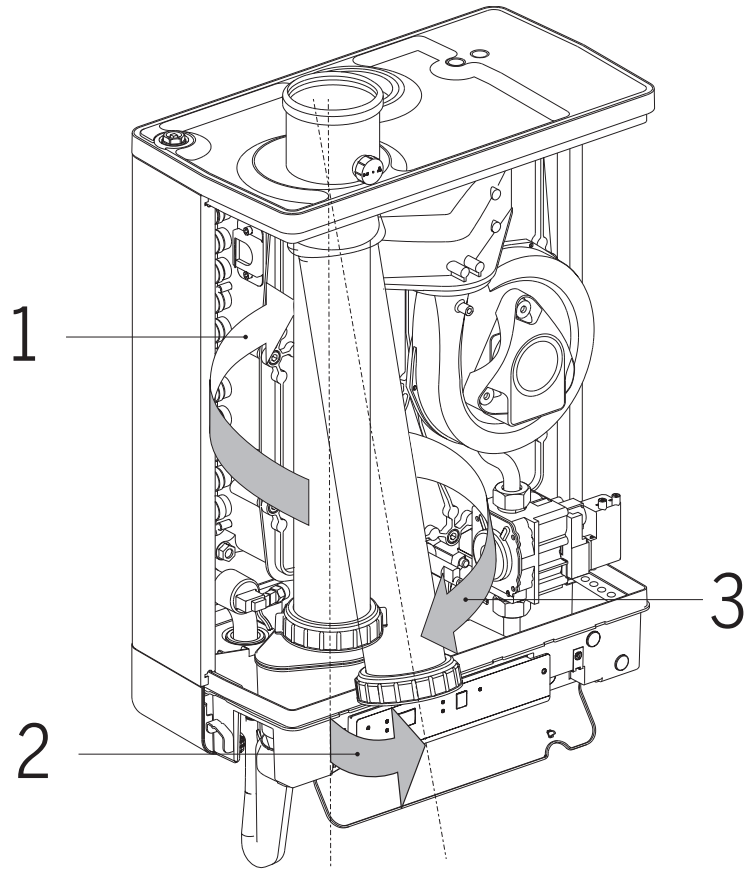

Fig. 20: Removal of Flue Pipe
2. Pull up on the flue pipe to disengage from the condensate pan as show in Fig. 20 on page 41.
3. Pull the flue pipe down and out to disengage from the vent adapter as shown in Fig. 20 on page 41.